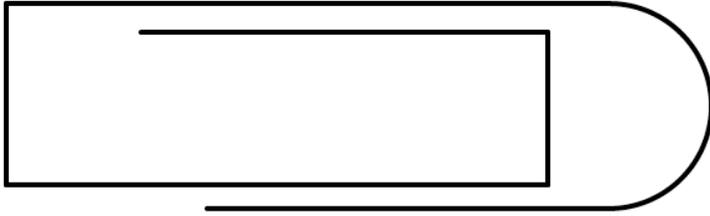

Fig 6. First end rounded
- You should now have a rounded ended paper clip (Fig 6)